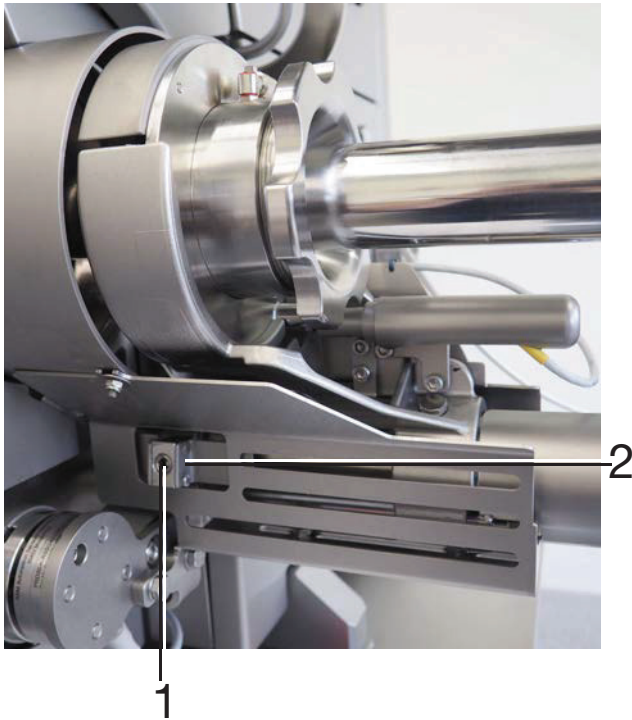

Fig. 5-21 1 Screw
- Loosen the screw (1). (Fig. 5-21)
- Slide the stop (2) to the left or right.
- Tighten the screw (1).